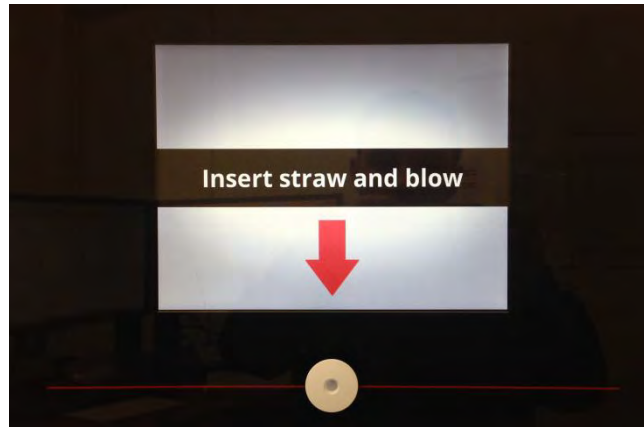

Figure 8 – Insert straw and blow
- a. Ensure the instrument is ready to take a sample. This is indicated with a welcome screen and instructions on how to provide a breath sample (refer Figure 8). There may be a specific customer welcome screen.
- c. Place straw in the sample port (refer Figure 8).